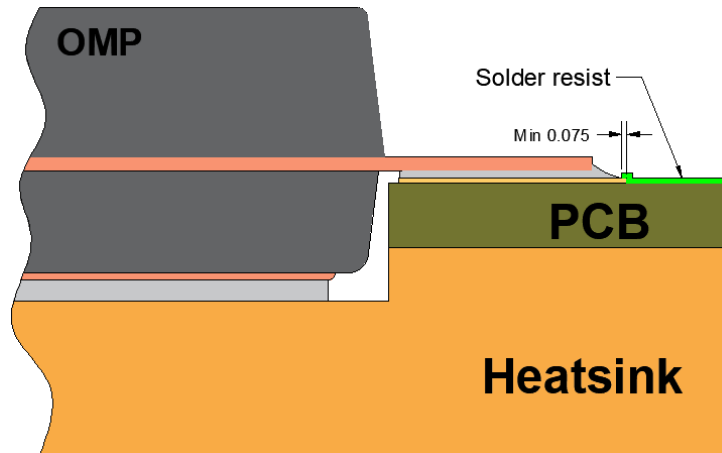

Figure 21. SMD cross section view OMP straight leads package
- Solder mask defined (SMD) the solder mask overlaps the underlying metal pad, which is slightly larger than the solder mask opening (Figure 21).